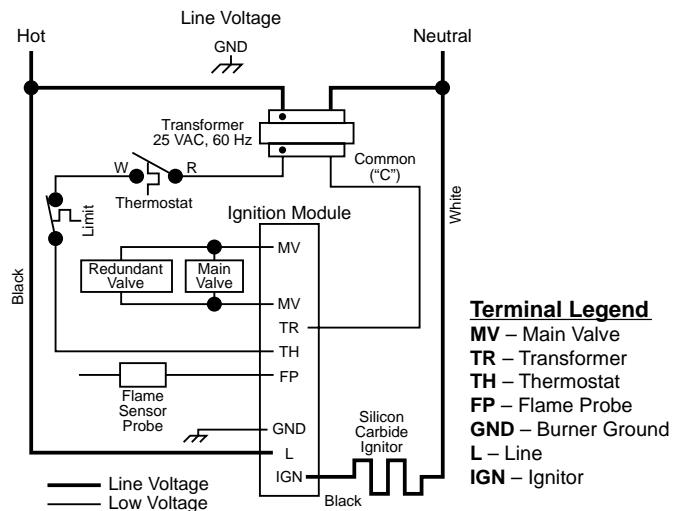
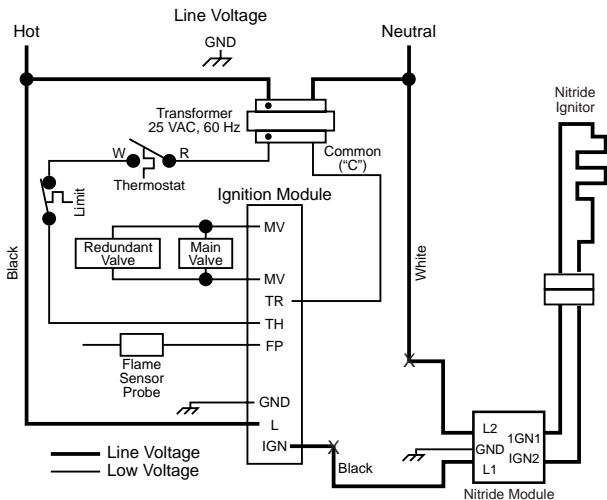

Figure 3. Typical System Wiring Diagram
Figure 4. Typical System Wiring Diagram with Nitride Upgrade
- 10) Attach the black and white lead assemblies to the module (terminals L1 & L2). Cut the connector that the ignitor was connected to from leads coming from the HSI ignition module and attach the new black and white leads to them using the wire nuts provided. Figure 3 shows the typical system wiring before the upgrade. Figure 4 shows typical system wiring after installation of the nitride upgrade.